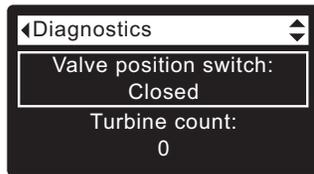

FIG. 111
2. Press the DOWN (▼) button to scroll through the list until **Valve position switch** is displayed (See Figure 111).